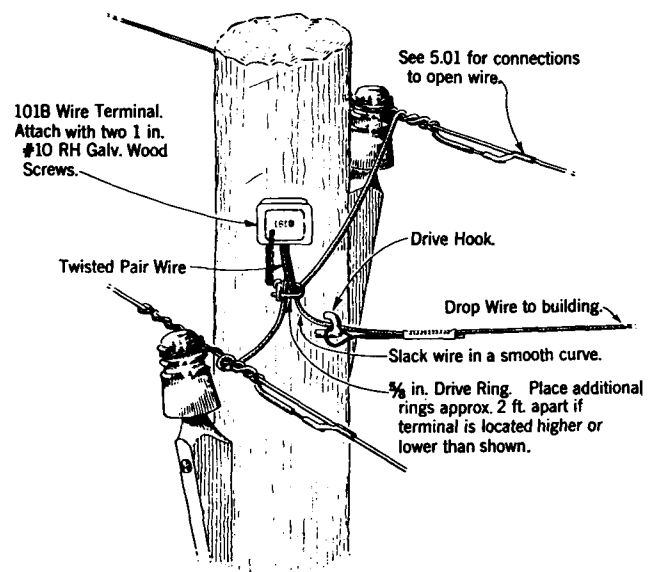

Fig. 7 – Where Pole Brackets Are Located on Opposite Sides of Pole
4.14 The wiring arrangements on line poles equipped with wooden pole brackets are illustrated in Fig. 7 and 8.